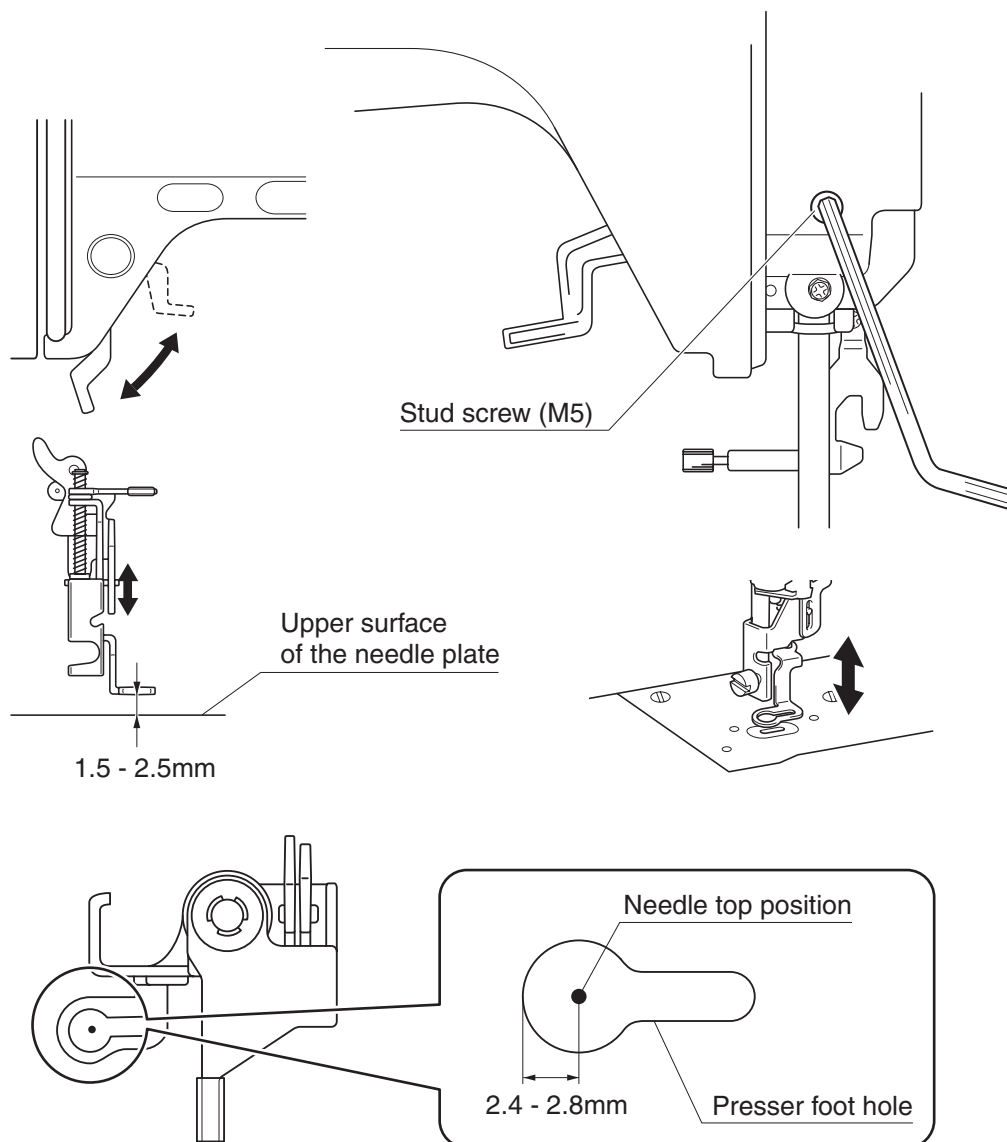

Fig. 1
- In case the position of the socket set screw (FT, M4x4) is too left, the hook doesn't turn. (Fig.1)
- Adjust the clearance (left/right) between the needle and the left edge of the presser foot hole to 2.4 to 2.8mm. (Fig. 1)